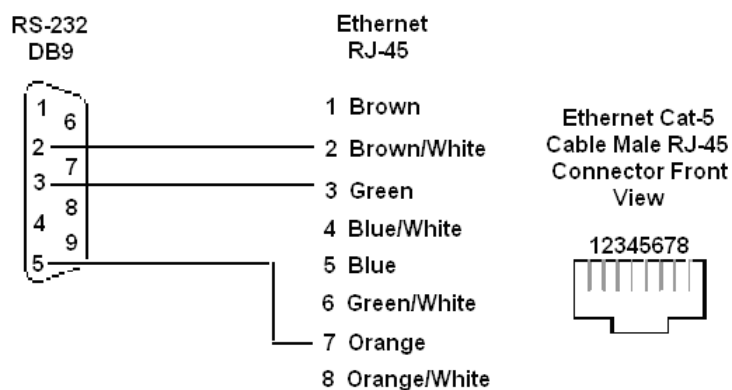

Figure 1.3 RS-232 Network Connection
- ☐ 5.2: Connect the controller to the S+/S- and R+/R- terminals on the G7 drive's terminal block as shown in *Figure 1.3 – RS-422/RS-485 Connections*.